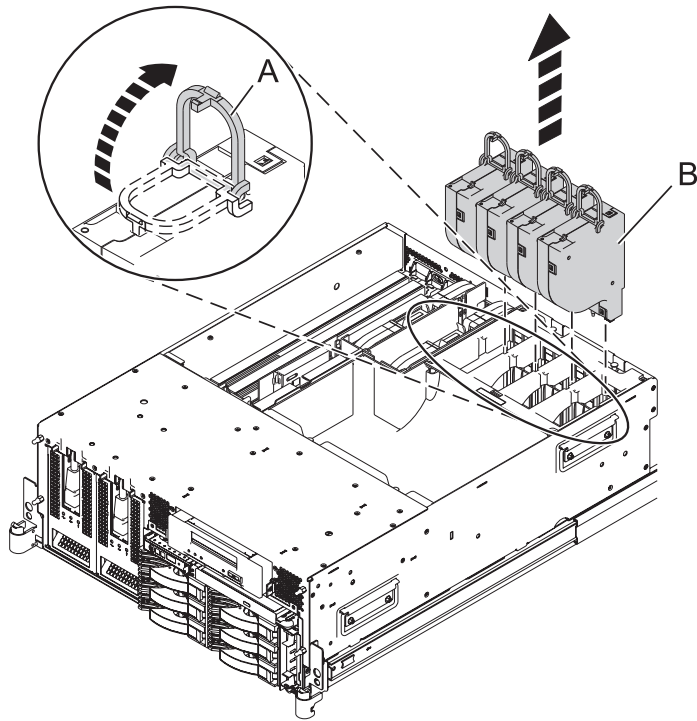

Figure 20. Removing the fans
9. Remove the fans by lifting each of the fan pull tabs **(A)** and lifting the fans **(B)** out of the system as shown in Figure 20 on page 32.